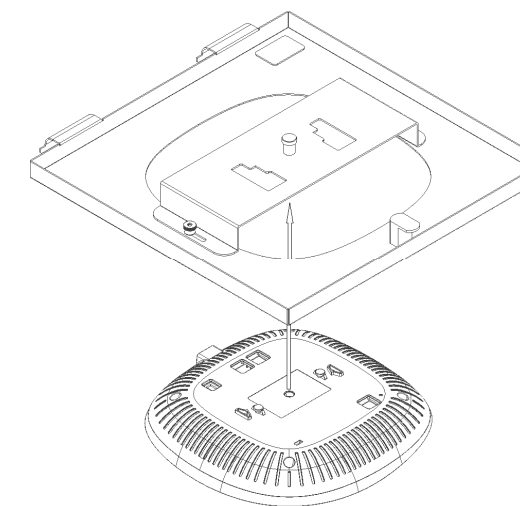

Figure 5
Step 5 – To install the Aruba AP, loosen the two thumb nuts on the mounting plate one or two turns to allow the mounting plate to move freely. (Ref. Figure 5).